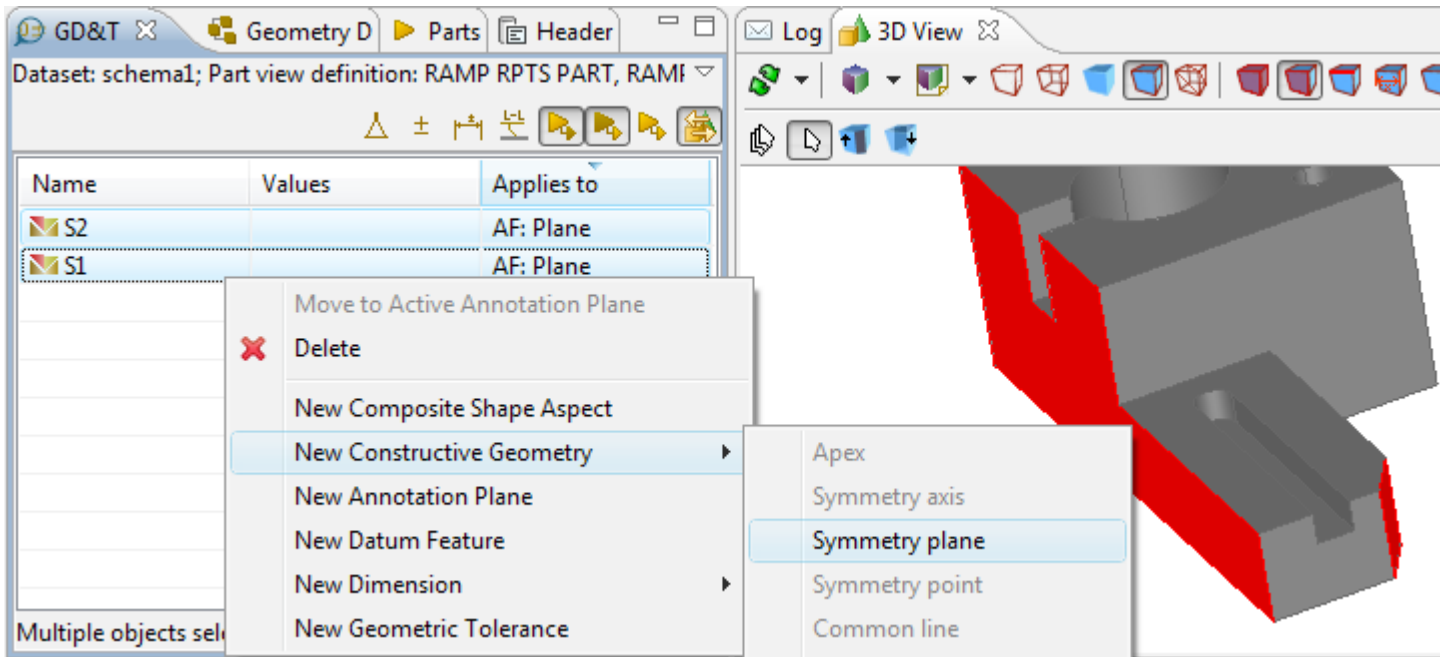

Figure 1. Selected items: two plane items, menu item to create symmetry axis in GD&T view and two planes in 3D View
- Right click and select **New Constructive Geometry -> Symmetry plane** item in the appeared context sensitive menu (see Figure 1).